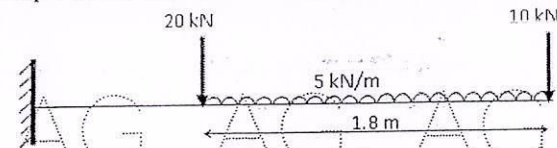

Figure: 6
8. A cantilever beam of span 2.4 m is subjected to the loading as shown in Figure 6, find the deflection and slope under the concentrated loads. [10]